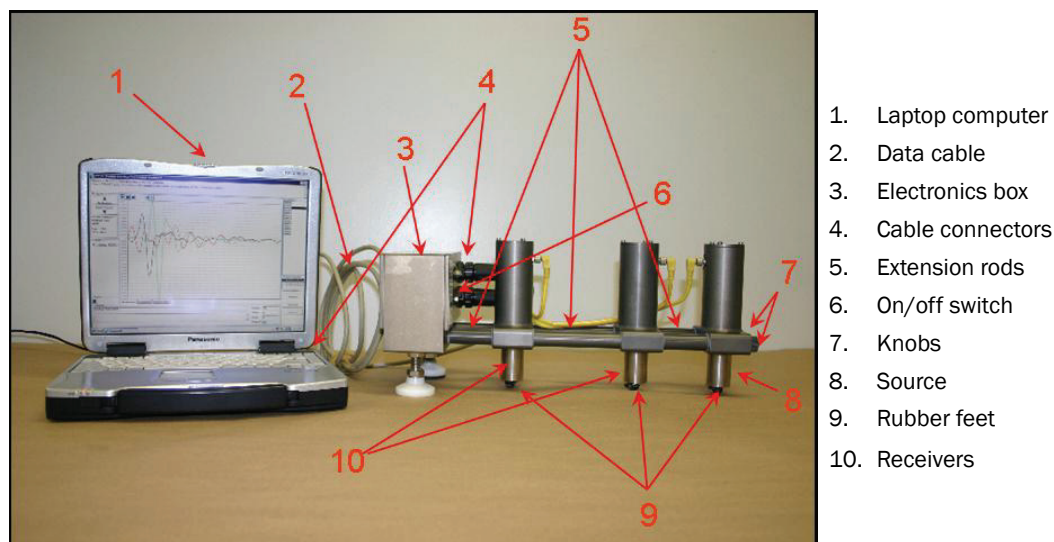

Figure 1. Components of the PSPA.
The portable seismic pavement analyzer (PSPA) is a simple and nondestructive device that rapidly measures Young's modulus via ultrasonic surface waves. Tests can be performed in less than 30 sec, and a user can be trained to operate the device in less than 1 day. The PSPA was developed to provide a means for estimating the in situ seismic modulus of portland cement concrete (PCC) and asphalt concrete (AC) pavements. Additional strength parameters necessary for structural pavement evaluations have been correlated with the PSPA results. Figure 1 shows the various components of the device.